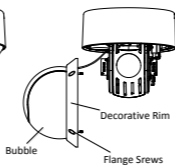
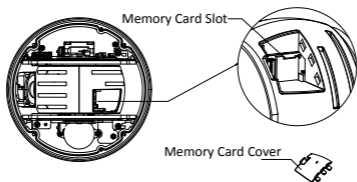

Figure 2-10 For 20× Camera Module
Figure 2-11 For 4× Camera Module
3. Open the memory card cover and insert the memory card into the card slot as shown in Figure 2-10 and Figure 2-11.